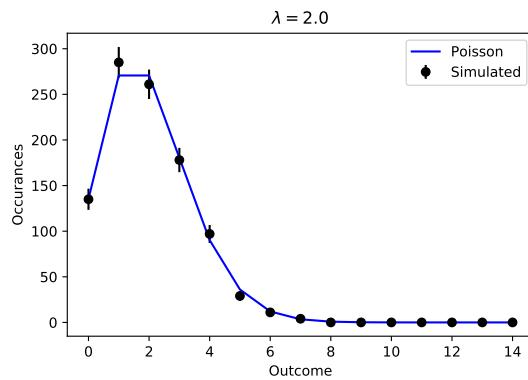

Figure 8.1: Example of the expected result for the Monte Carlo simulation data in comparison to the Poisson PDF for $\lambda = 2$.
- See Fig. 8.1 to familiarize yourself with what the sources look like.